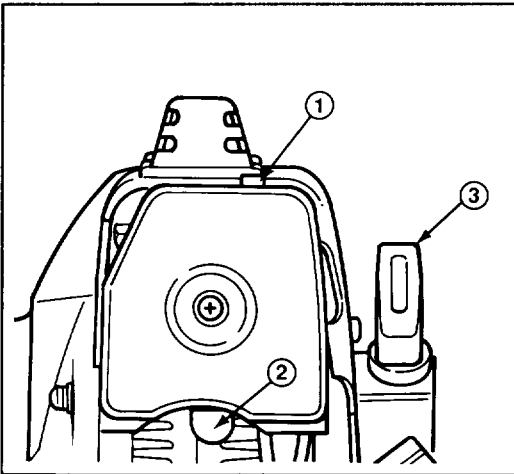

Figure 7
2. Move choke lever to OPEN position (Fig. 7).